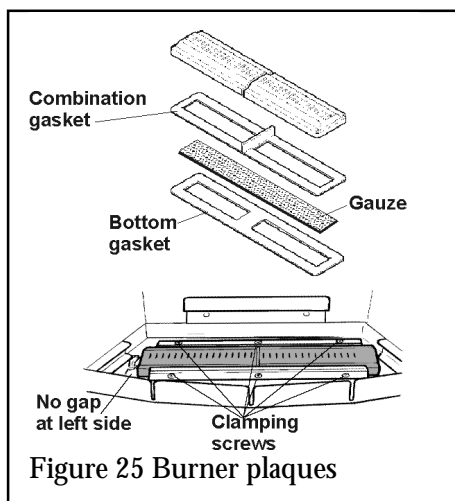

Figure 25 Burner plaques
14.1 To Replace Burner Plaques (See Figure 25)